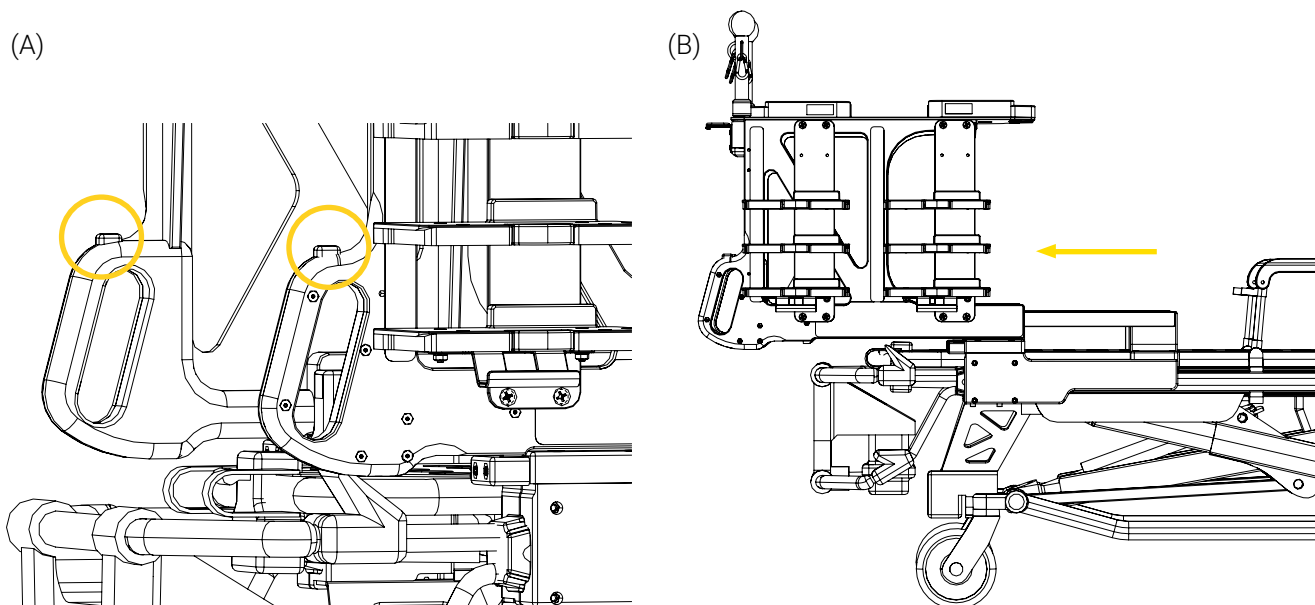

Figure 42: Locking the mobile structure
10. Grab the mobile structure handles, then press and hold the buttons of the quick release mechanisms (Figure 42 A).
11. Pull the mobile structure towards patient foot end until it locks (Figure 42 B).